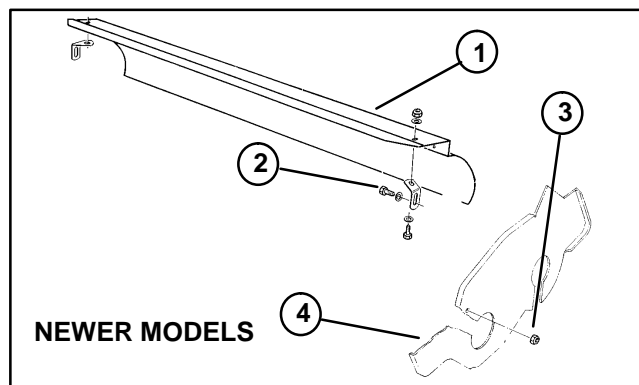

Figure 20
A. Lower grass shield by loosening both cap screws and lock nuts securing the shield to the frame (Fig. 20).